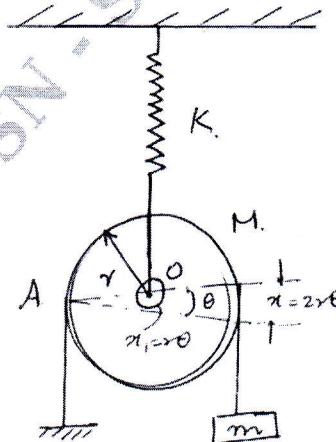

Fig. Q3 (b)
- b. Determine the equation of motion and the natural frequency of the system shown in the Fig. Q3 (b)